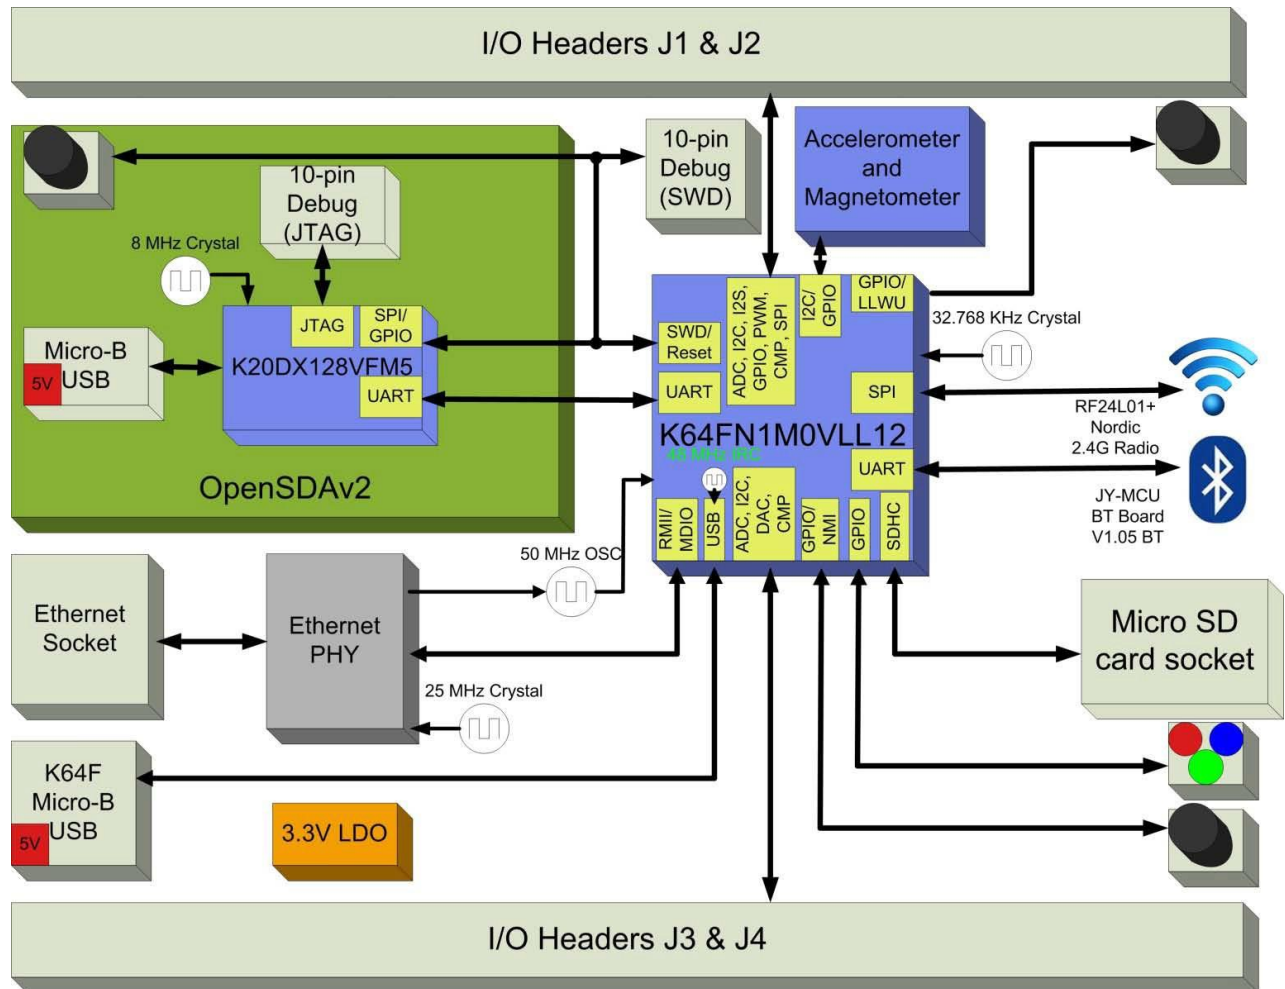
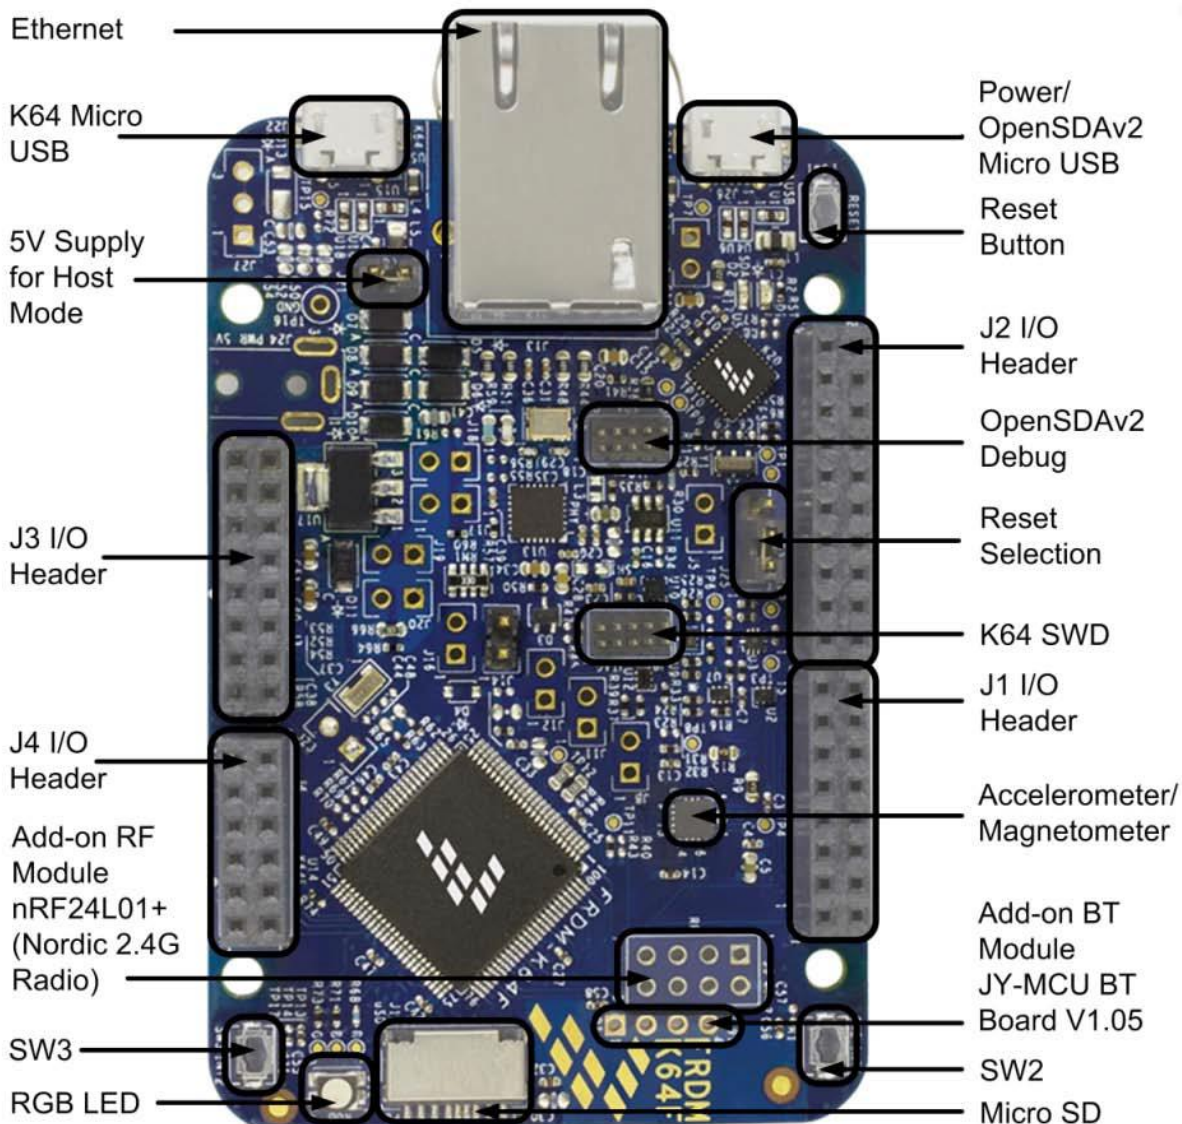

Figure 1. FRDM-K64F block diagram
Figure 2. FRDM-K64F main components placement
*Figure 1* shows the block diagram of the FRDM-K64F design. The primary components and their placement on the hardware assembly are explained in *Figure 2*.